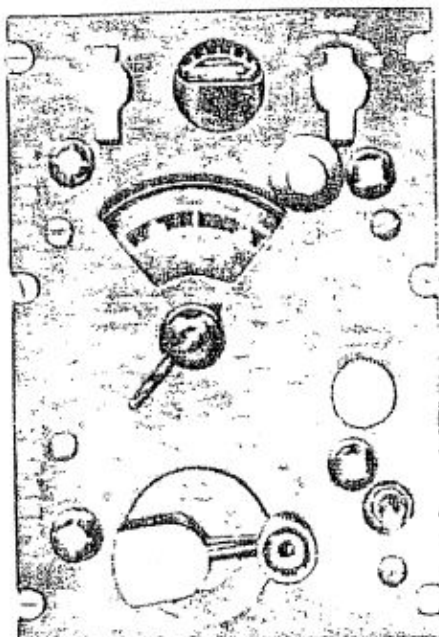

Figure 1-1B. Control Panel C-758/A
b. CONTROL PANEL C-758/A. (See figure 1-1B.)
m. CONTROL PANEL C-758/A. (See figure 1-1B.)—Control Panel C-758/A is similar to Control Box C-149/ARN-6 except that Control Panel C-758/A has no headset jack. Headset operation is to be provided through the aircraft interphone facilities. All electrical connections are made by means of a cable with a socket insert assembly plug connecting to a male connector in the rear of the control panel. The following controls are included: a five-position function switch marked "OFF-COMP-ANT-LOOP-